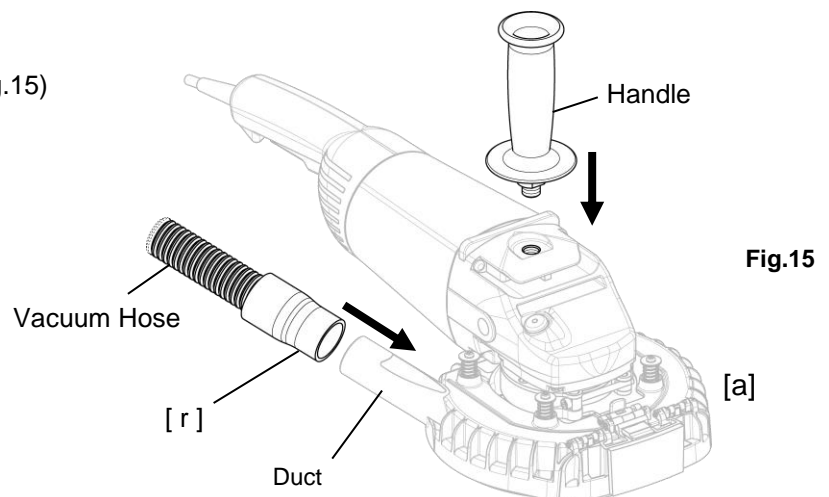

Fig.15
8. Connect the Vacuum Hose to the Duct of the [a] Main Unit using [r] Hose Adaptor.(Fig.15)